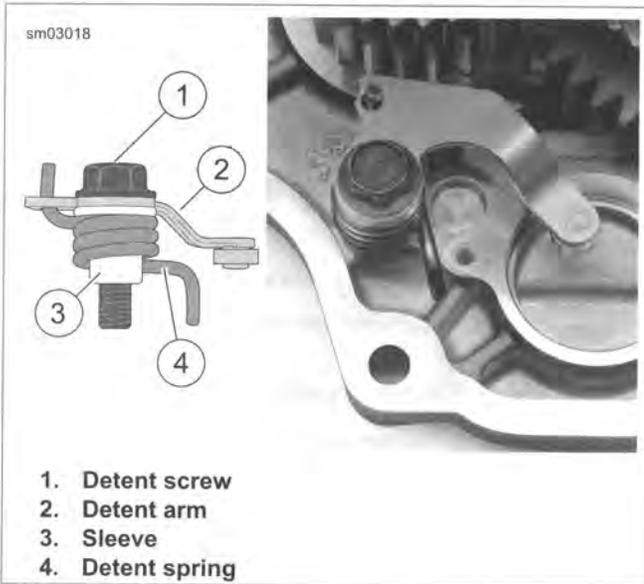

Figure 6-29. Detent Assembly
- See Figure 6-29. Clean detent screw mounting hole in transmission bearing housing.